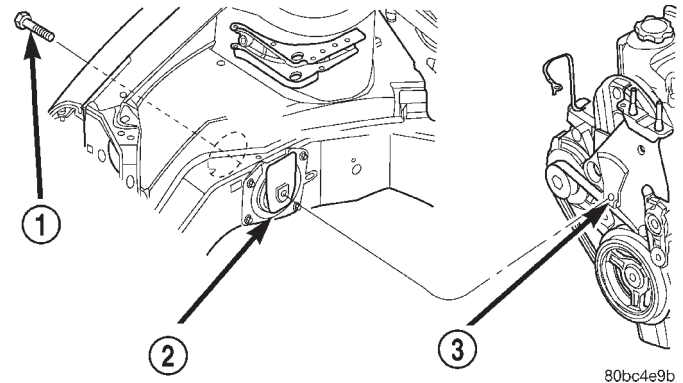
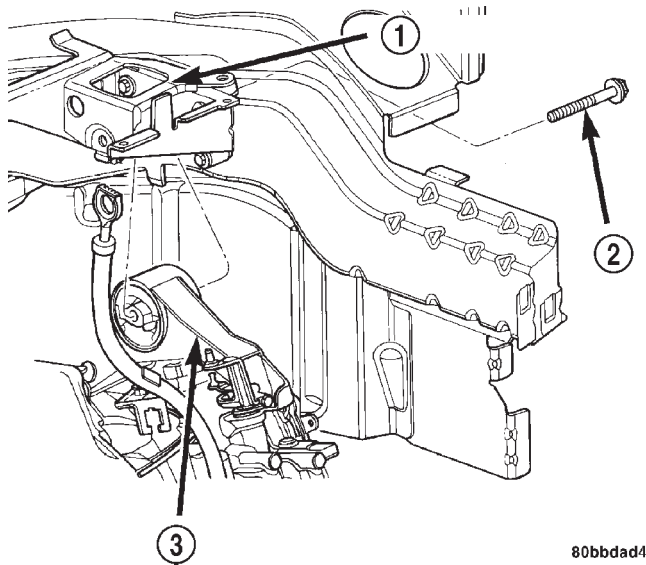

Fig. 24 Right Mount Through Bolt
Fig. 25 Left Mount Through Bolt
(31) Raise vehicle enough to see if straps are tight enough to hold cradle assembly to engine.
(32) Lower vehicle so weight of the engine and transmission ONLY is on the cradle assembly.
(33) Remove the upper engine torque strut.
(34) Remove right and left engine and transaxle mount through bolts (Fig. 24) and (Fig. 25).
(35) Raise vehicle slowly until body is approximately 15 cm (6 in.) above normal engine mounting locations.
(36) Remove generator, lower bracket, and upper mounting bolt.
(37) Continue raising vehicle slowly until engine/transaxle assembly clears engine compartment. It may be necessary to move the engine/transmission assembly with the cradle to allow for removal around body flanges.
(1) Position engine and transmission assembly under vehicle and slowly lower the vehicle over the engine/transaxle assembly until vehicle is within 15 cm (6 in.) of engine mounting locations.
(2) Install generator, lower bracket, and adjusting bolt.
(3) Continue lowering vehicle until engine/transaxle aligns to mounting locations. Install mounting bolts at the right and left engine/transaxle mounts (Fig. 24) and (Fig. 25). Tighten bolts to 118 N·m (87 ft. lbs.).
(4) Install upper engine torque strut. Refer to procedure in this section.
(5) Remove safety straps from engine/transaxle assembly. Slowly raise vehicle enough to remove the engine dolly and cradle.
(6) Install axle shafts. Refer to Group 3, Differential and Driveline for procedure.
(7) Install structural collar. Refer to procedure in this section tightening sequence.